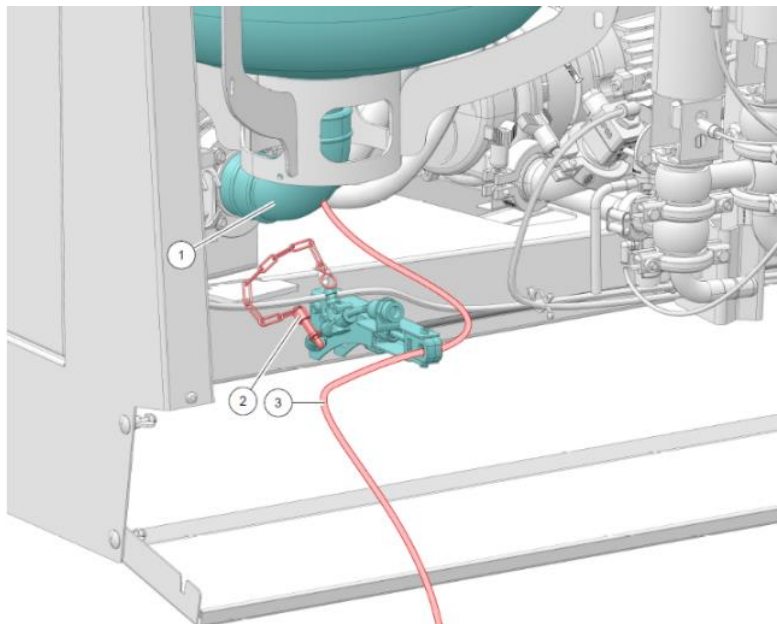

Figure 30. For the Astronaut A5 milking robot, version 1
- Connect the milk tube to an **Astronaut A5 milking robot**; pass the milk tube through hole, remove stop nipple 2, put the nipple and connect the milk tube 3 to the elbow 1, or base under receiver see the figure 30 and 30.1